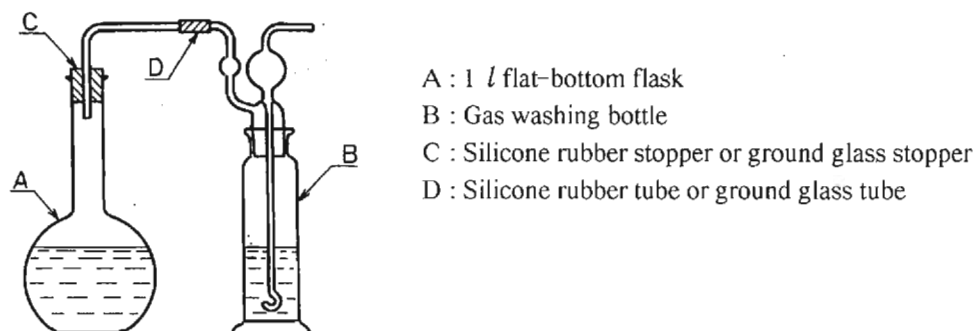

Fig. 1 Example of cooling apparatus of carbon dioxide-free water
- (1) **Reagents** Reagents shall be those specified in Japanese Industrial Standards, or the ones with equal or superior quality to. If there is no specification in Japanese Industrial Standards, they shall be specified in individual standard.
- (2) **Water** The water applicable to the tests shall be either the water purified by distillation method or ion-exchange method, or the water purified by the method combined reverse-osmosis method, distillation method or ion-exchange method. If necessary, it shall be specified in individual standard.
- (3) **Carbon dioxide-free water** Place water in a flask, boil it for 15 minutes, as shown in Fig. 1, connect the flask with either a gas washing bottle containing potassium hydroxide solution (250 g/l) or a soda-lime pipe in order to shield carbon dioxide in air, and allow it to cool. Prepare this water when it is needed.
- (4) **Dissolved oxygen-free water** Place water in a flask, boil it for 5 minutes, as shown in Fig. 1, connect a gas washing bottle containing alkaline pyrogallol solution ⁽⁴⁾ in order to shield oxygen in air, and allow it to cool. Alternatively, place water in a flask, and aerate nitrogen through water for about 15 minutes. Prepare this water when it is needed.